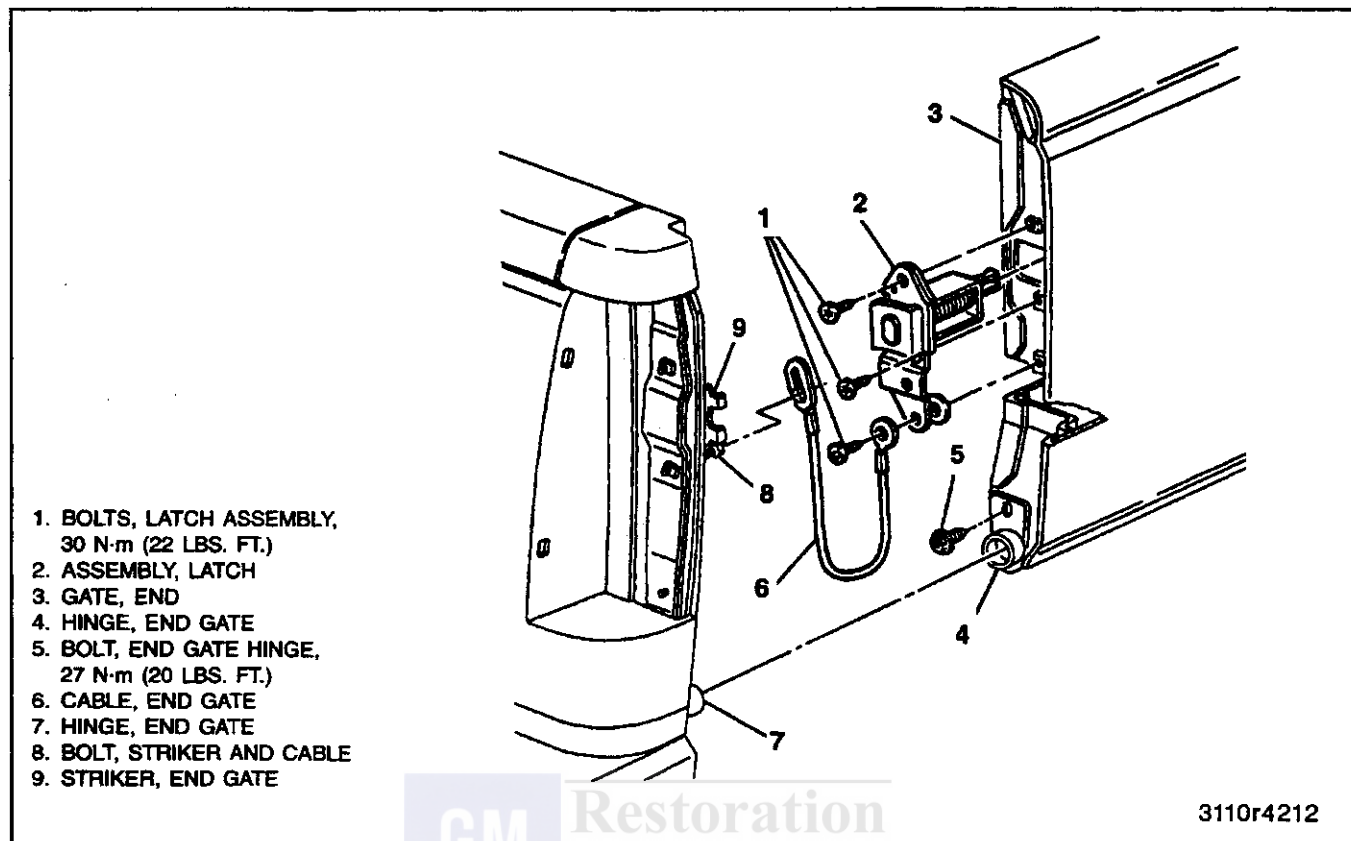

Figure 1—End Cable and Latch Components
**Remove or Disconnect (Figures 1 and 2)**
**Install or Connect (Figures 1 and 2)**
### Remove or Disconnect (Figure 1 and 3)
**Install or Connect (Figures 1 and 3)**
2. Three bolts holding the latch assembly to the end gate (figure 1).
### Remove or Disconnect (Figure 1)
### Install or Connect (Figure 1)